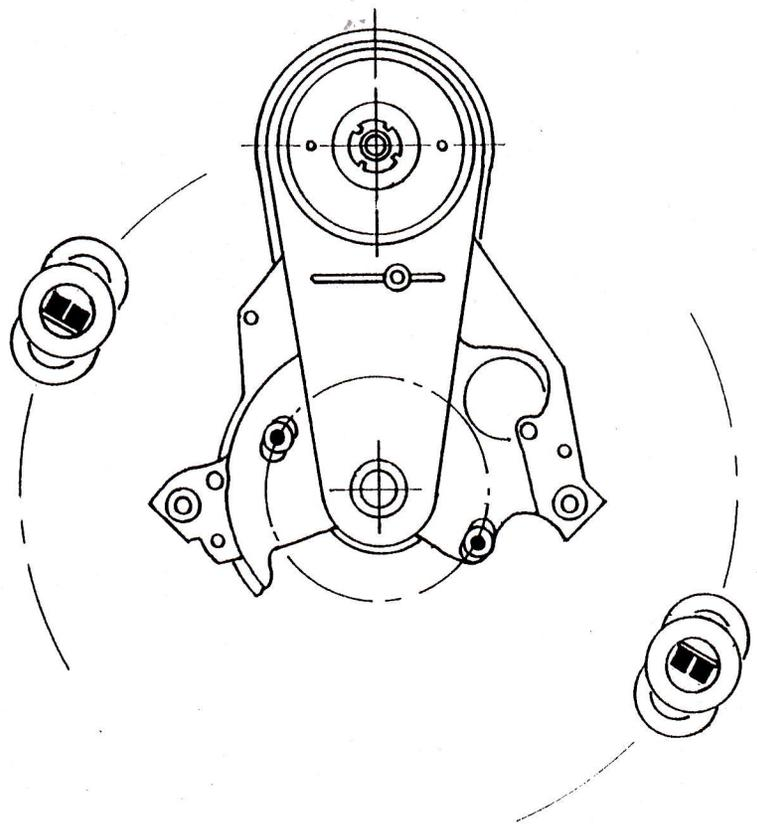

Figure 1. Inside of reduction drive housing
17) Slide the new sensor, locking nut and washer through the slot in the housing. Position the sensors as shown in Figure 1. Thread the locking nut on to the sensor, and then install the rubber boot.